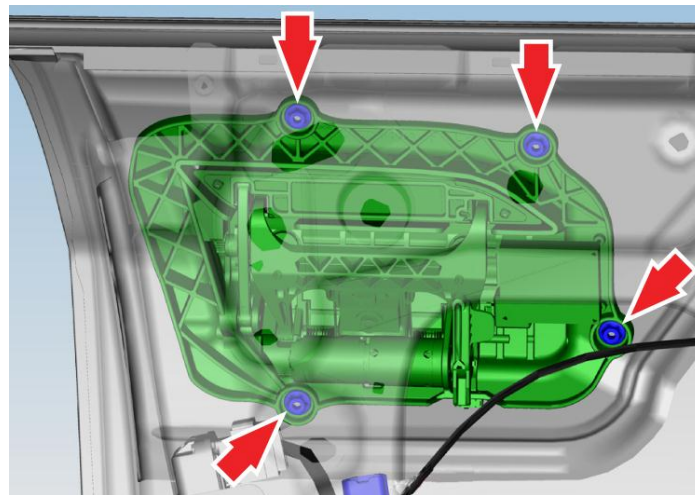

Figure 5
1. Inspect for shims or washers on the bolts that secure the door handle (Figure 5). If any shims or washers are present, remove them. If the problem persists, replace the door handle.